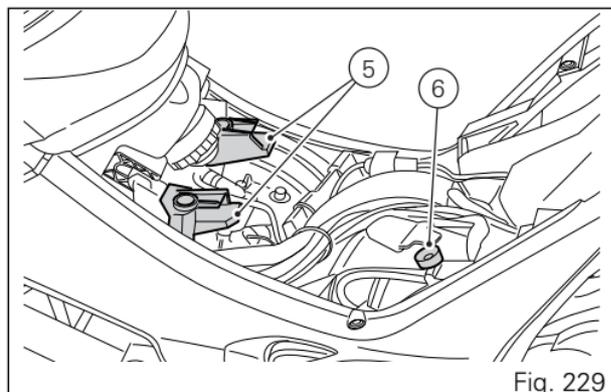

Fig. 229
Position rider seat (4) front end, with slots (7), into guides (5, Fig. 229) and engage pin (6, Fig. 229) into its housing (8).
Make sure that pin (6, Fig. 229) is engaged in its housing (8).